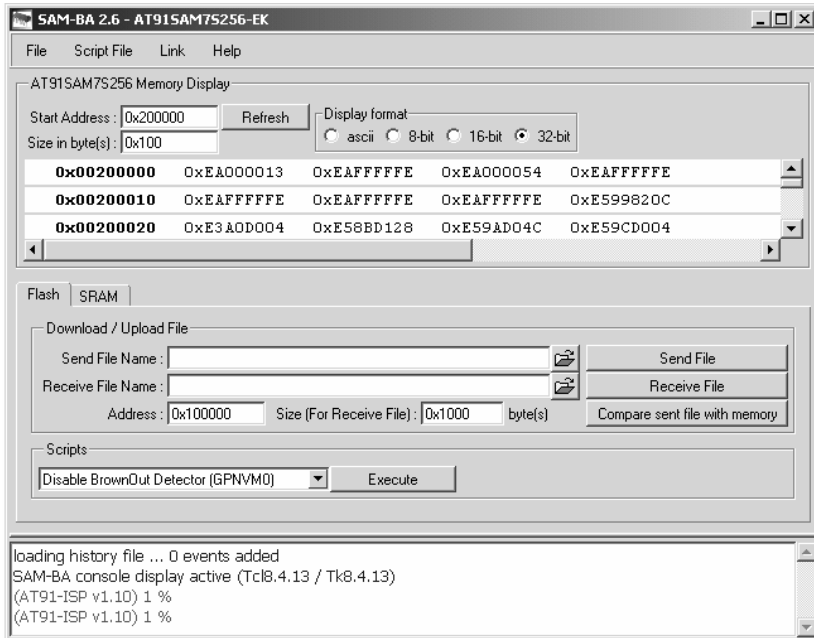

Fig.2 Code Download Window
- c. Click "Connect" button to enter the download window. Please see figure 2 on page 43.